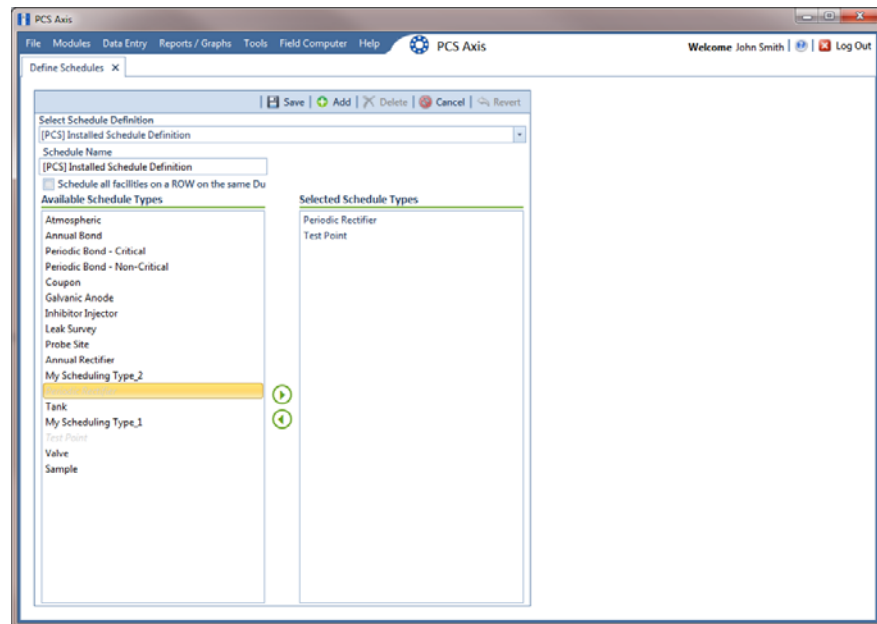

Figure 9-10. Adding a Schedule Type
- b Click the top arrow button  to move the schedule type(s) to the *Selected Schedule Types* pane (Figure 9-10). Click  **Save**.
- a Select a schedule type listed in the *Selected Schedule Types* pane (Figure 9-10). To select multiple schedule types, press the **Ctrl** key on the computer keyboard while selecting each schedule type.